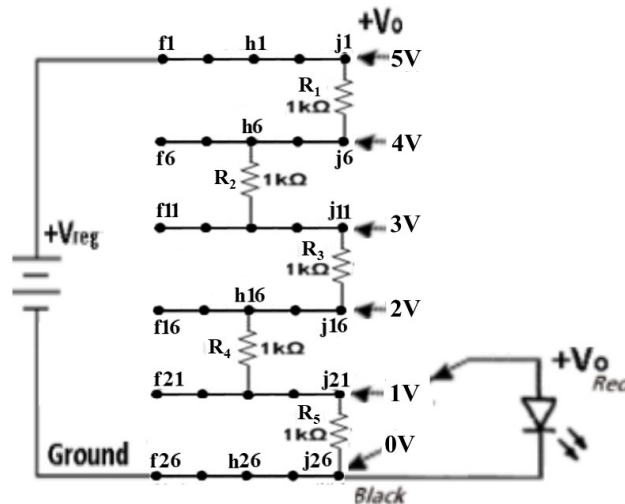

Figure 2.4. Resistive Voltage Divider Power Source and LED
IF YOU DON'T HAVE A Potentiometer - Voltage Divider Circuit (Figure 2.4)
3.2) Using the circuit of Figure 2.4, connect a **black** wire from the ground to a convenient row of tie-points on the breadboard (e.g., **a15**). Insert one of the **Green LEDs** into the breadboard with the short lead (LED's **FLAT** side) in **c15** and the other 'longer' lead in **c16**. Now take a **red** wire and connect it the 3 volt V_o tie-point (e.g., **f11**) and the LED tie-point at **e15**.